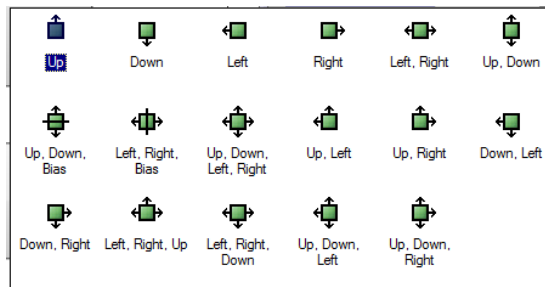

Figure 1.2 - SizeMode Options
- SizeMode: Direction(s) in which you want the object to resize (options shown in Figure 1.2)